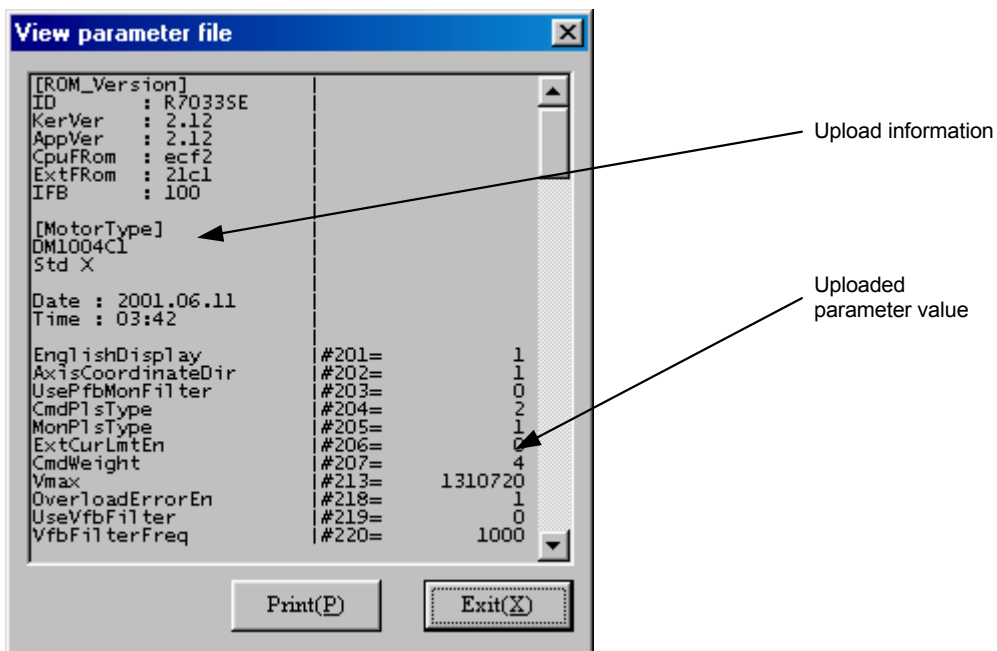

Figure 8.25 “Parameter file display” dialog box
- 1) Click “**View file (V)**” in the “Parameter Manager” dialog box.
- 3) Click “**Open (O)**” to begin displaying the file contents in the “Parameter file display” dialog box (see Figure 8.25).
- 4) If you want to print the file, click “**Print (P).**”
- 5) Click “**Exit (X)**” and return to the “Parameter Manager” dialog box.